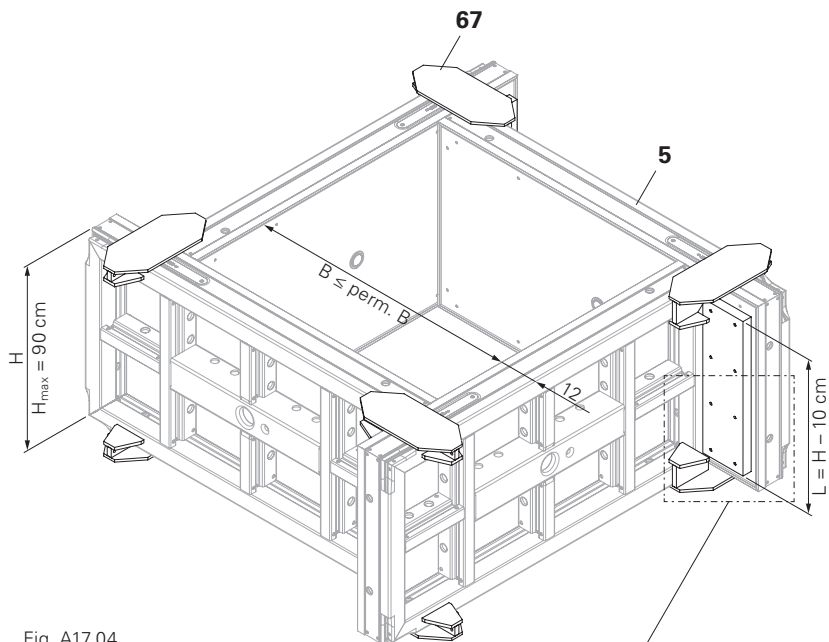

Fig. A17.04
5. Fit additional Panels MX-2 (**5**), locating boards (**72**) and Foundation Straps MX/TR (**67**). (Fig. A17.04)